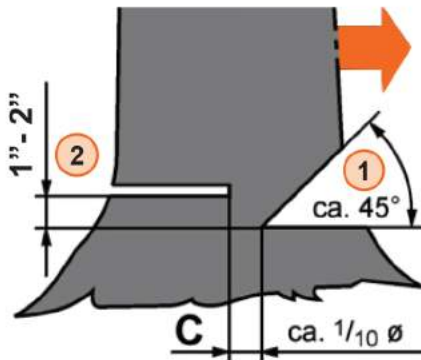

Figure 16
Notch the trunk by approx. one third of its diameter on the side of the direction of fall ① (see Figure 16).